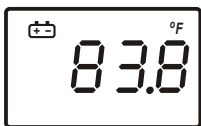

Fig.12
- ✓ The  icon appears on the left top of the screen (See Fig.12).